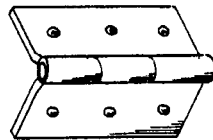

Fig. 3
12. State the correct name of the ironmongery item shown in Figure 3.